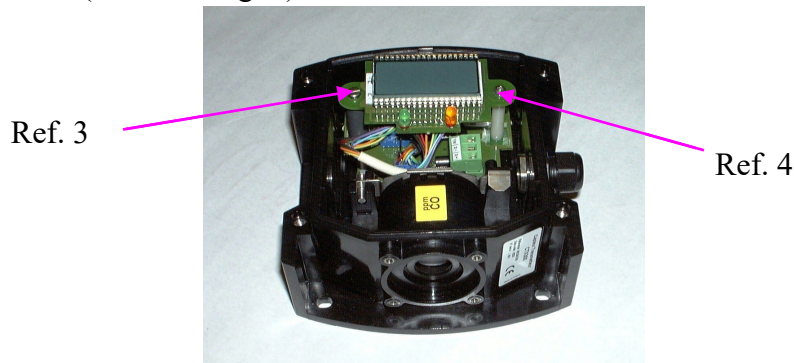

FIG. 2
- Gently remove the screw (Ref. 3 in Fig. 2)
- Completely remove the screw (Ref. 4 in Fig. 2)
- Remove the cover (Ref. 2 in Fig. 2)